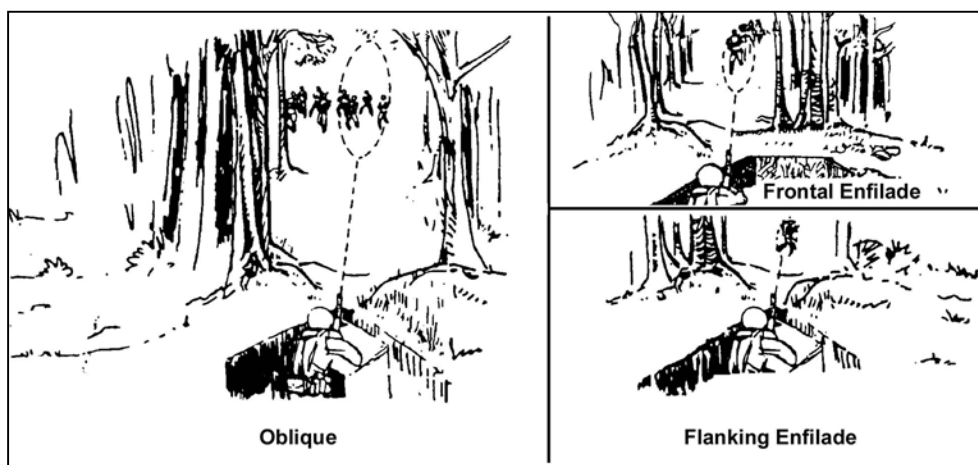

Figure 5-5. Oblique fire and enfilade fire.
c. **Oblique Fire.** Oblique fire is when the long axis of the beaten zone is at an angle other than a right angle to the front of the target (Figure 5-5).
d. **Enfilade Fire.** Enfilade fire is when the long axis of the beaten zone coincides or nearly coincides with the long axis of the target. This type of fire is either frontal or flanking. It is the most desirable type of fire with respect to a target, because it makes maximum use of the beaten zone (Figure 5-5, page 5-4).